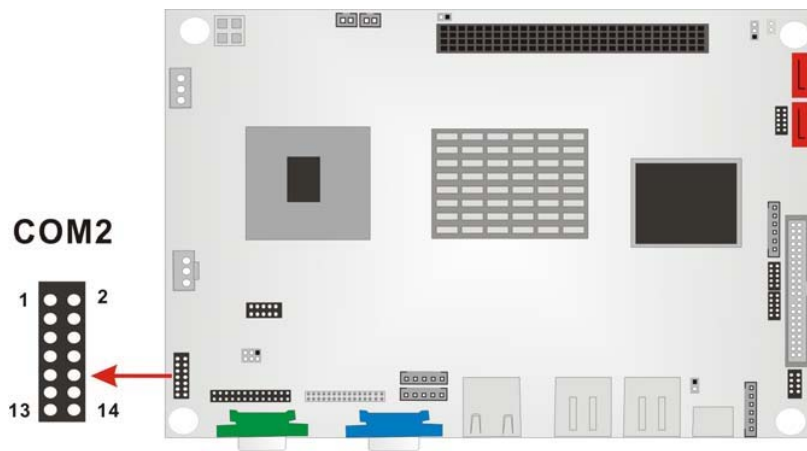

Figure 3-22: COM2 Connector Location
- CN Location:** See Figure 3-22